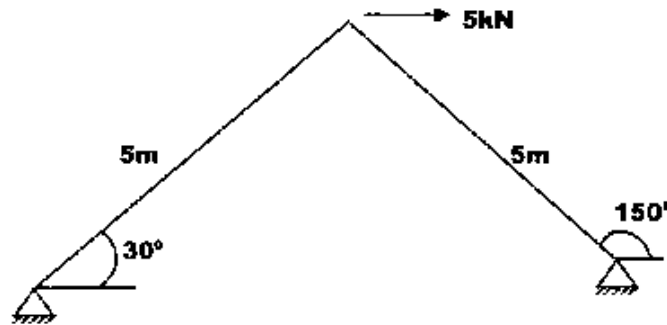

Fig. 1
6. Analyze the two member truss shown in Fig.1. Assume EA to be constant for all members. The length of each member is 5m.